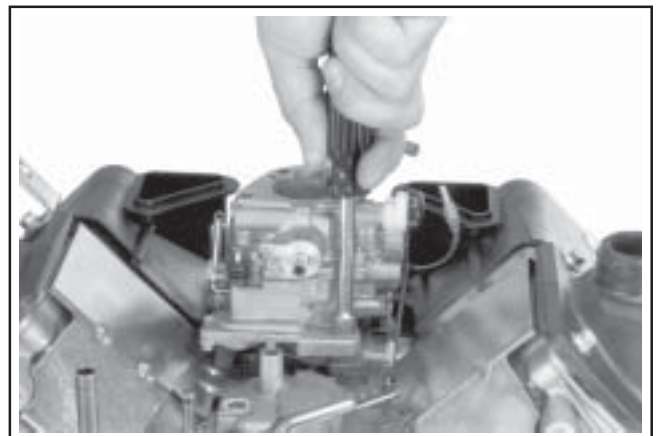

Figure 9-27. Removing Carburetor Mounting Screws.
2. **One-Barrel Carburetor Models Only:** Remove the two carburetor mounting screws. See Figure 9-27.